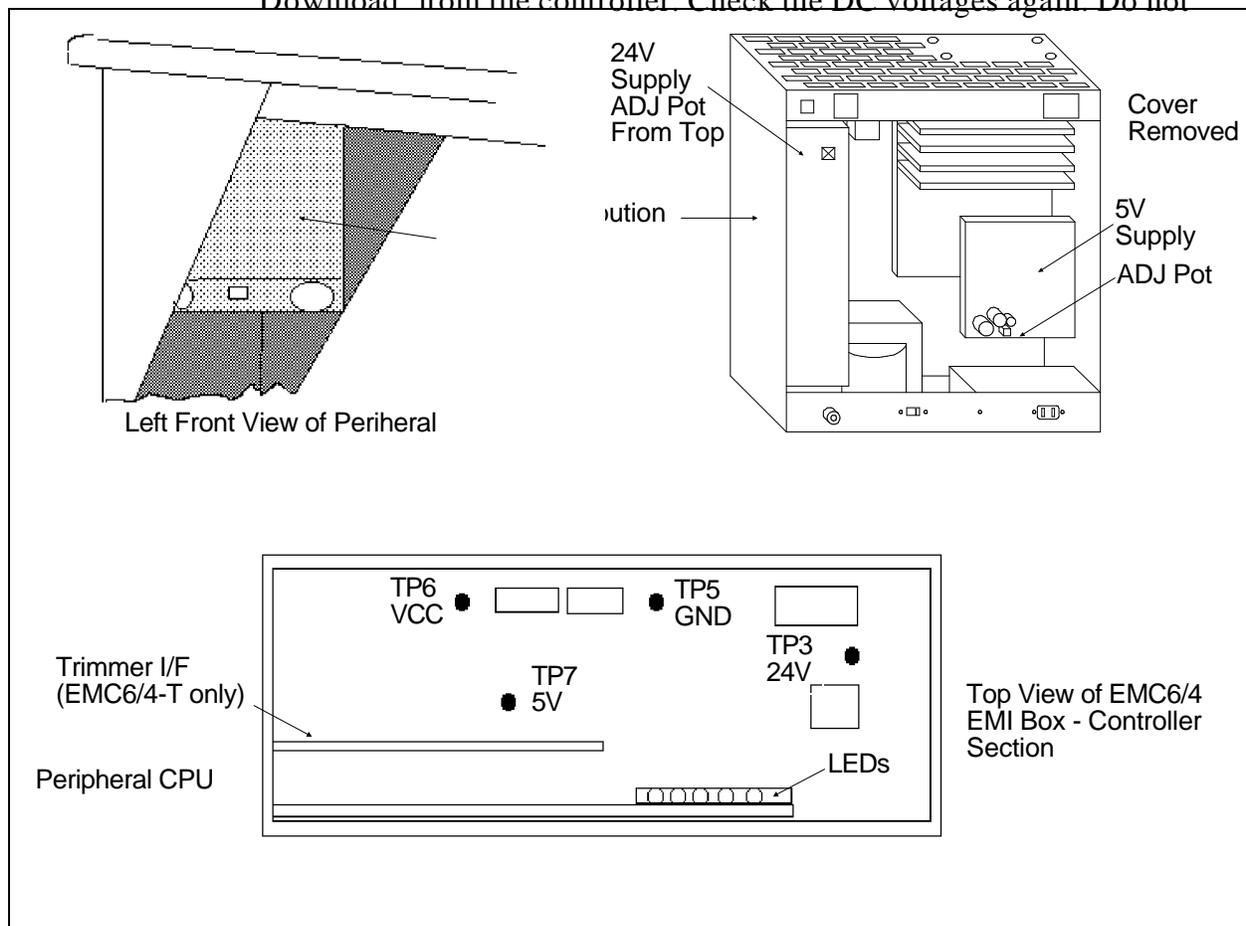

Fig. 4-3
1. Remove Rear Cover # 4 (Controller Section). Then remove the EMI Box cover to access the Motor Controller PCB, using Fig.4-3 locate the four Test Points shown, TP5 (GND), TP6 (VCC), TP7 (5 Volt), and TP3 (24 volt).
5. If 5 volts needs adjusting, remove the Power Distribution Box cover and using Fig. 4-3 locate the 5 volt power supply and the adjusting potentiometer. Note that the 24 volt output should never need adjusting. However, should it be necessary the 24 volt adjustment potentiometer is found in the 24 volt power supply at R59. Adjusting the 24 volts requires removing the power distribution box, then inserting a long insulated adjustment tool in the top of the supply.
5. Locate the 4 Red LEDs and 1 Green LED on the outside end at the top of the CPU PCB in the EMI Box. See fig. 4-3.